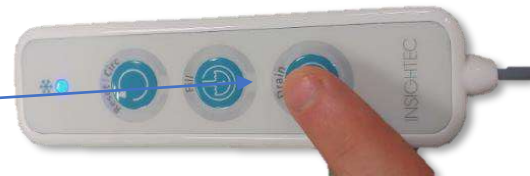

Figure 12-15: Drain
Step 22: Drain the water from the transducer using the screen or the remote (**Figure 12-15**).